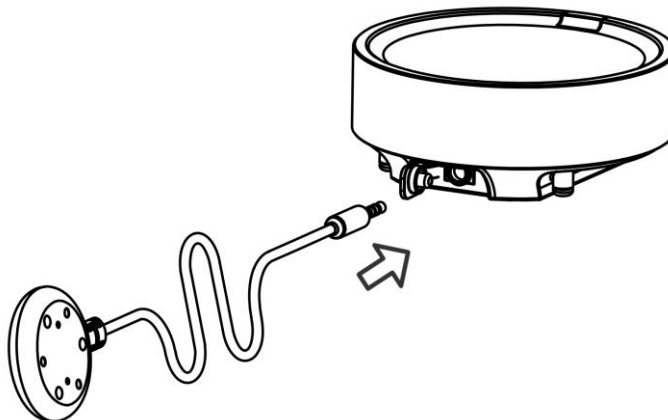

Figure 14
- 1) Insert the wired sensor into the wireless sensor (refer to Figure 14)